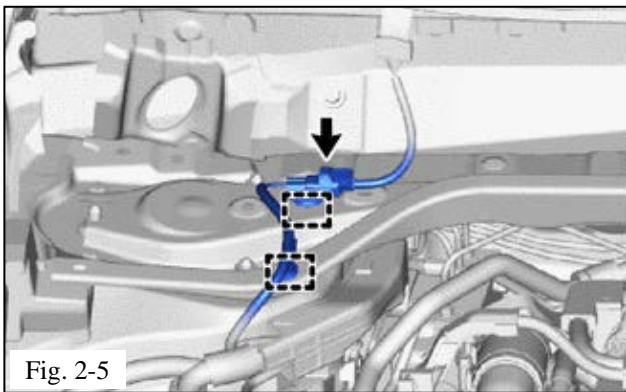

Fig. 2-5
- (1) Disconnect the connector (Fig. 2-5).
- (2) Disengage the 2 clamps to separate the wire harness from the outer cowl top panel sub-assembly.